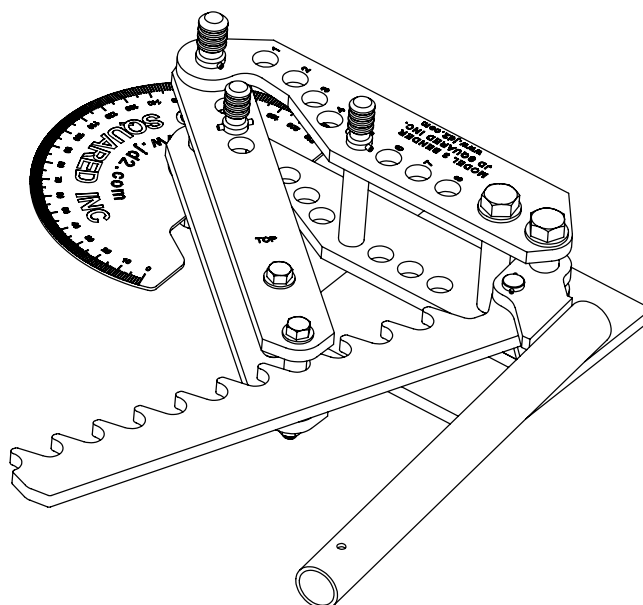

Figure 4 - Completed bender without die set installed
4) Remove all pins from the Drive Link assembly. With the word 'TOP' facing up, Install the Drive Link assembly into the Frame assembly using the 1" Frame Pin. See figure 4. The bender is now assembled and ready for the die set to be installed.